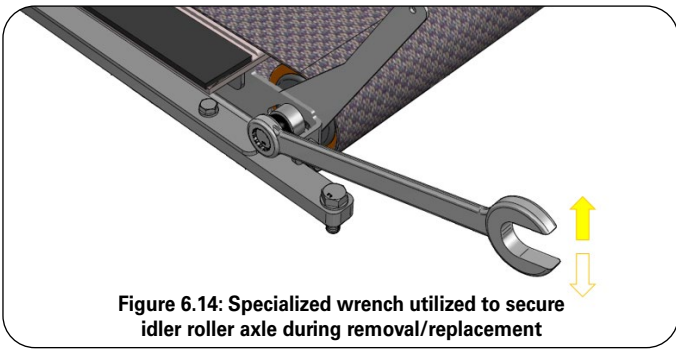

Figure 6.14: Specialized wrench utilized to secure idler roller axle during removal/replacement
- e. Using the specialized axle wrench (or equivalent) in combination with a wrench, loosen the bolts securing each end of the axle to the frame. (see figure 6.14).